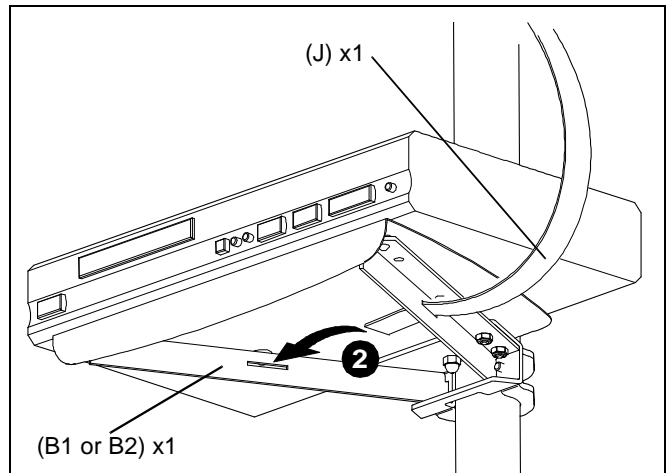

Figure 5
2. Thread strap (H) through slots in shelf base (B1 or B2). (See Figure 5)